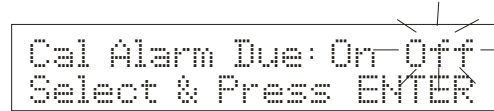

Figure 92
4. Press  $>/CAL$  to toggle between Cal Alarm Due: *On* and *Off*. The selection will flash. See **Figure 92**.